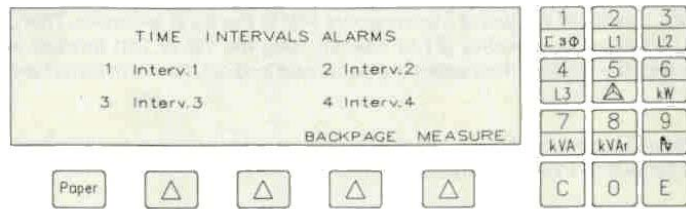

Fig. 3.35
-Press [6] to locate the time interval alarm page, which allows the operator to select one or more of the programmed intervals for alarm monitoring. (See Fig. 3.35). If no time intervals have been programmed, the procedure comes to a halt.